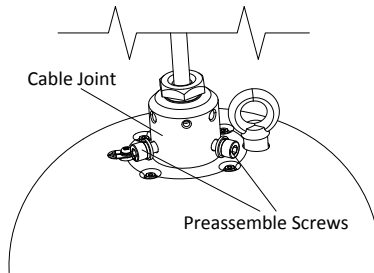

Figure 2-6 Insert the Screws
3. Route the cables into the bracket body. Insert three preassemble screws into the preassemble screw holes on the cable joint (do not tighten the preassemble screws) as shown in Figure 2-6.